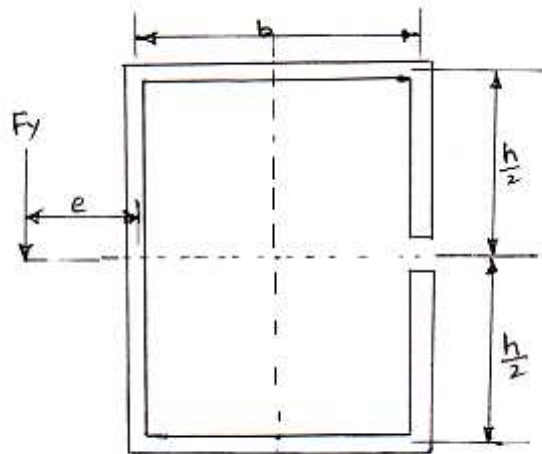

Figure 1
1. A cross section of a slit rectangular tube of constant thickness is shown in figure 1. Show that shear centre  $e = b(2h+3b)/2(h+3b)$ . [16]